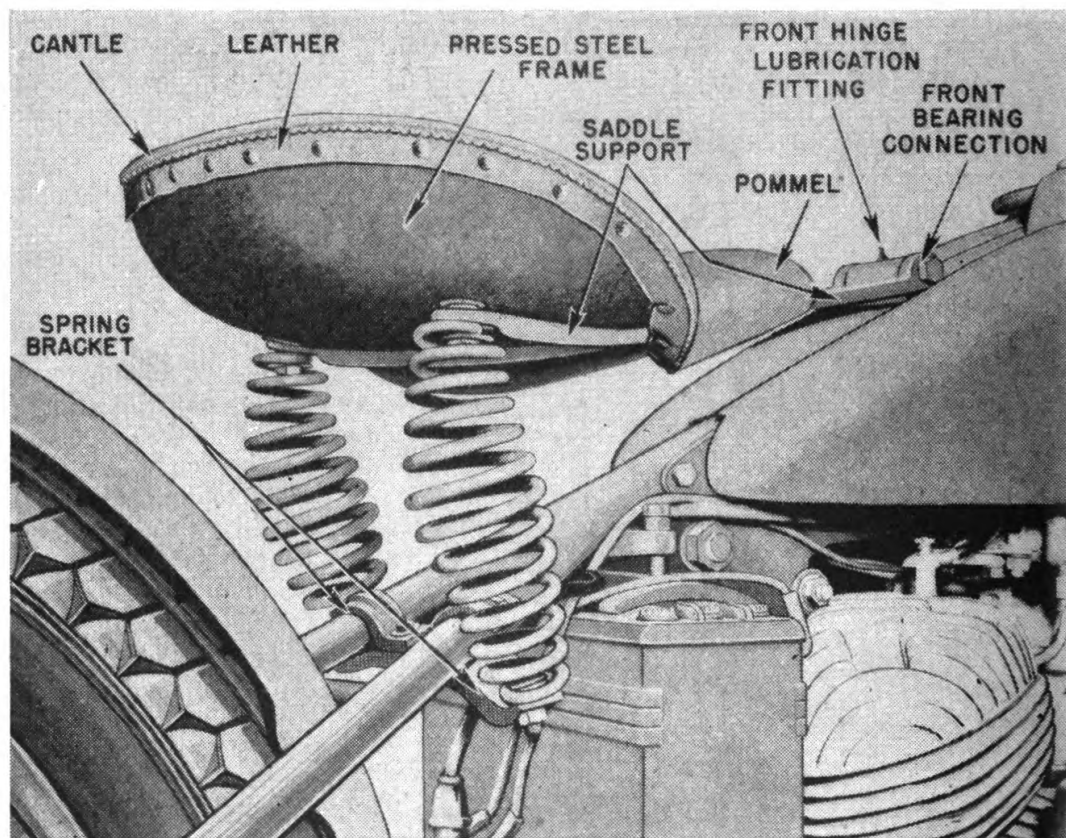

FIGURE 33.—Motorcycle saddle mounted on two coil springs.
*b.* The forward end of the saddle support is usually hinged to the motorcycle frame. Figure 33 shows the rear of the support cushioned on two coil springs which are mounted on a bracket attached to the